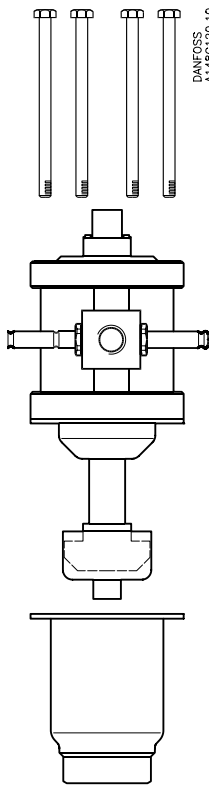

Fig. 3
Remove the actuator before welding (fig. 3). OBS: Be sure not to damage the teflon cone ring and the spindle. If these parts are damaged the valve will leak.
Remove welding slag and dirt from pipes and housing. The valve cone is protected with a cap. (B) Remove this cap before the valve is assembled (fig.3). OBS: Only 1 hot gas supply is required (Cf. Illustration A on fig. 4a); connect this supply to the pilot valve armature.